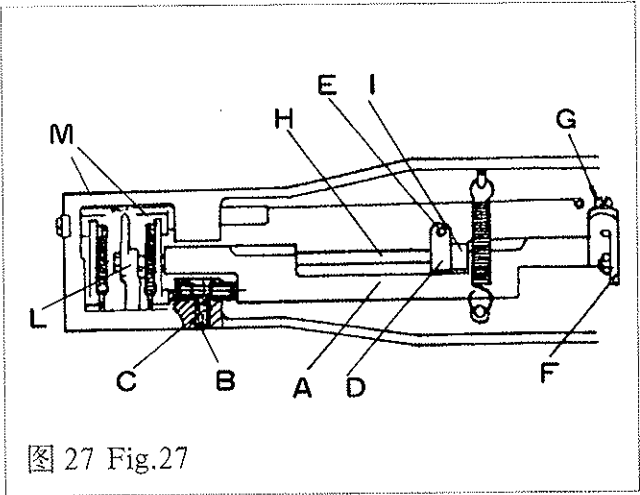
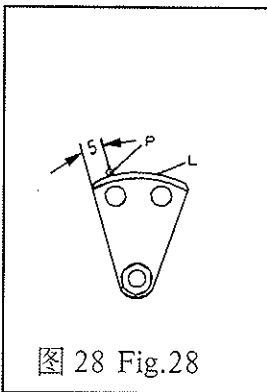

图 27 Fig.27
图 28 Fig.28
调整方法 (图 27)
(2)前后位置 抬料轮的前后位置以第一针为准，当机针“P”针尖与抬料轮中心相交时，抬料轮“L”的后侧面到机针中心之间的距离为5毫米（图28），如果上述位置不正确，必须进行调整。
调整方法：转动手轮使机针“P”的针尖与抬料轮“L”中心相交（图28）。然后旋松曲柄锁紧螺钉“G”（图27），转动抬料轴“H”（图27、29），使抬料轮后侧面离开机针中心5毫米（图28）时将曲柄锁紧螺钉“G”旋紧。最后检查一下抬料轴“H”应无轴向窜动，摆动应灵活。
Take the first stitch as a frame of referance to the posititoning of ridge froming disc. When needle point “p” intersects the centre of ridge forming disc, the back side of ridge forming disc “L” is in 5mm distance from the centre of needle(Fig.28). If incor-rect location is positioned, adjustment shall be made.
Turn handwheel until the needle point “P” intersects the centre of ridge forming disc “L”(Fig.28). Loosen crank lock screw “G”(Fig.27),turn the ridge forming disc shaft (Fig.27,29) “H” until the back side of ridge forming disc is in 5mm distance from the centre of the needle(Fig.28), tighten crank lock screw “G”. Be sure to keep the ridge forming disc from having anaxis play and make it swing nimbly.